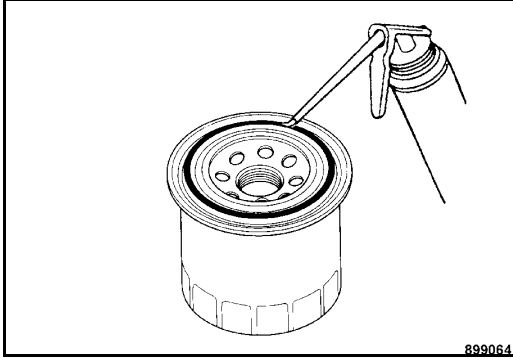

Fig. 136
- Slightly oil the rubber seal on the new filter cartridge (Fig. 136).